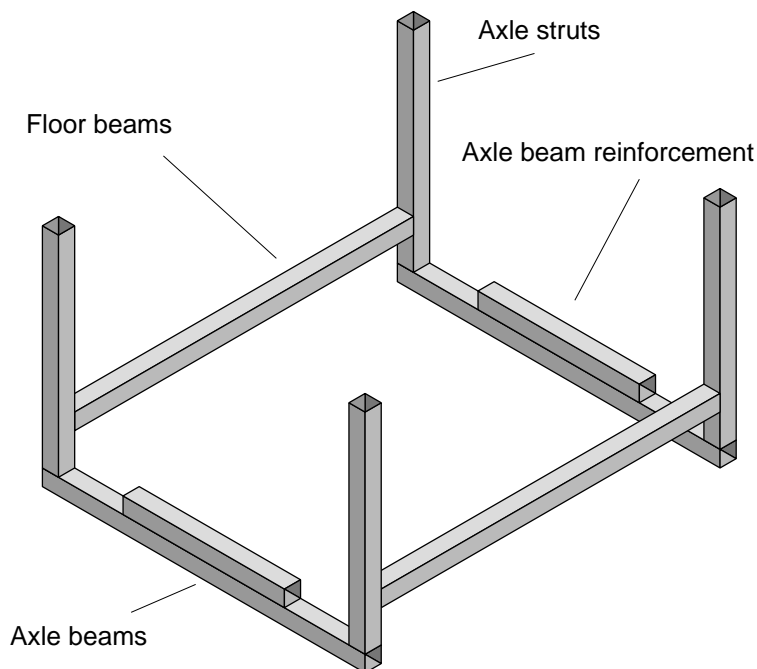

Figure 4: main frame assembly.
- 3) Then stand the two H frames on the axle beams as shown in Figure 4 and weld up the main frame.